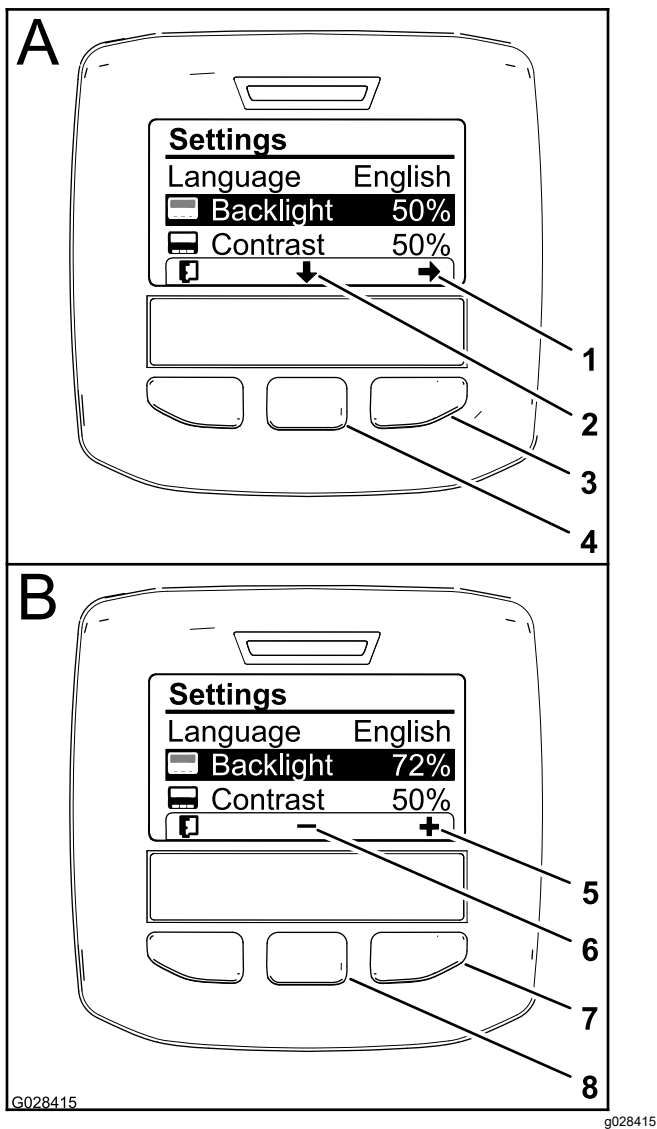

Figure 63
2. To adjust the backlight level of the display, press the center selection button (the button below the down arrow icon in the display) to move the selected option down to the Backlight setting (Figure 63).
3. Press the right selection button to display the value adjustment context (Figure 63).
4. Use the center selection button and right selection button to change the brightness level of the display (Figure 63).
selection, exit the Backlight menu, and return to the Settings menu (Figure 63).
6. To adjust the contrast level of the display, press the center selection button (the button below the down arrow icon in the display) to move the selected option down to the Contrast setting (Figure 63).
7. Press the right selection button to display the value adjustment context (Figure 63).
8. Press the left selection button (the button below the list icon in the display) to save your selection, exit the Contrast menu, and return to the Settings menu (Figure 63).
9. Press the left selection button to exit the Settings menu and return to the Main Menu (Figure 61 and Figure 63).
10. Press the left selection button to return to the Home screen (Figure 63).